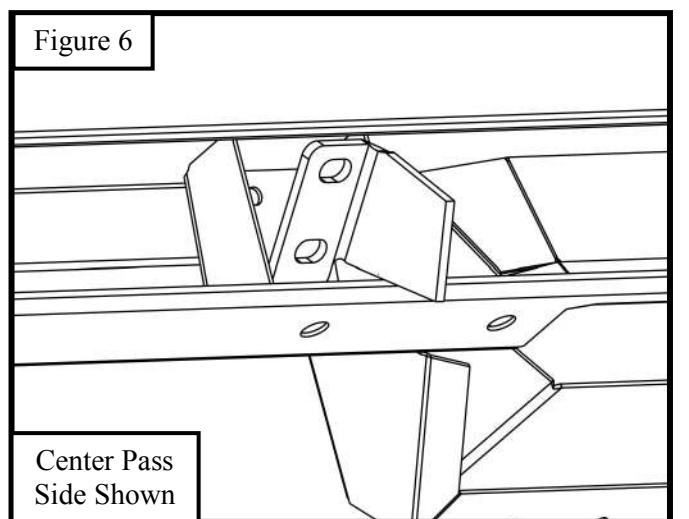

Figure 6
8. Tilt Board at angle to insert brackets into first 3 front mounting locations. **See Figure 6**